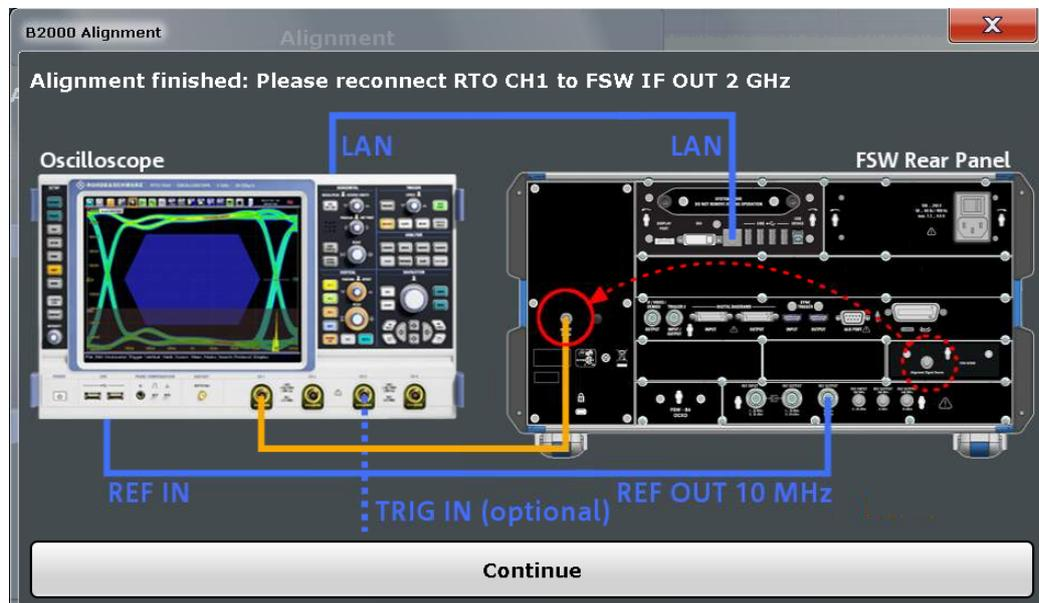

Figure 4-10: Alignment finished – reconnect with the B2000 IF signal.
1. After successful alignment, you can reconnect the RTO Channel 1 to the IF Output output.(Figure 4-10)